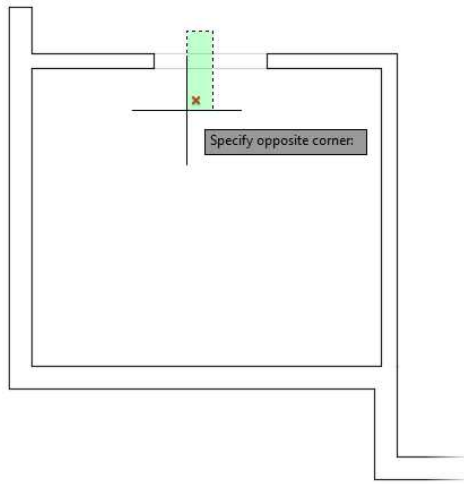

FIGURE 4.35: Trimming the wall opening by using a Shift key override within the EXTEND command
6. Repeat the same process you used in the previous steps. With the EXTEND command still active, press and hold the Shift key to create a crossing window through the wall, as shown in Figure 4.35. Press ↵ to exit the EXTEND command.